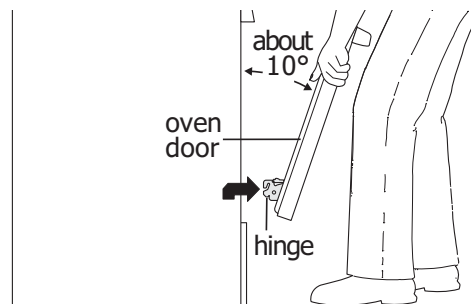
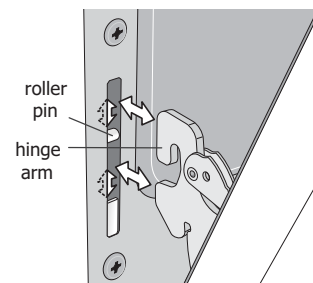

Figure 43: Holding door for removal
Figure 44: Replacement and location of hinge arm and roller pin
3. Firmly grasp both sides of oven door along the door sides. Do not use the oven door handle (See Figure 43).
4. Close the door to approximately 10 degrees from the door frame (See Figure 43).
5. Lift the oven door hinge arms over the roller pins located on each side of the oven frame (See Figure 44).
1. Firmly grasp both sides of oven door along the door sides. Do not use the oven door handle (See Figure 43).
2. Holding the oven door at the same angle as the removal position, seat the hook of the hinge arm over the roller pins located on each side of the oven door frame (See Figure 43 and Figure 44). The hook of the hinge arms must be fully seated onto the roller pins.